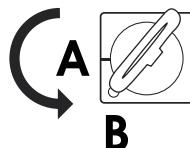

Figure 3
2. Turn counterclockwise to position B. (See Figure 3)